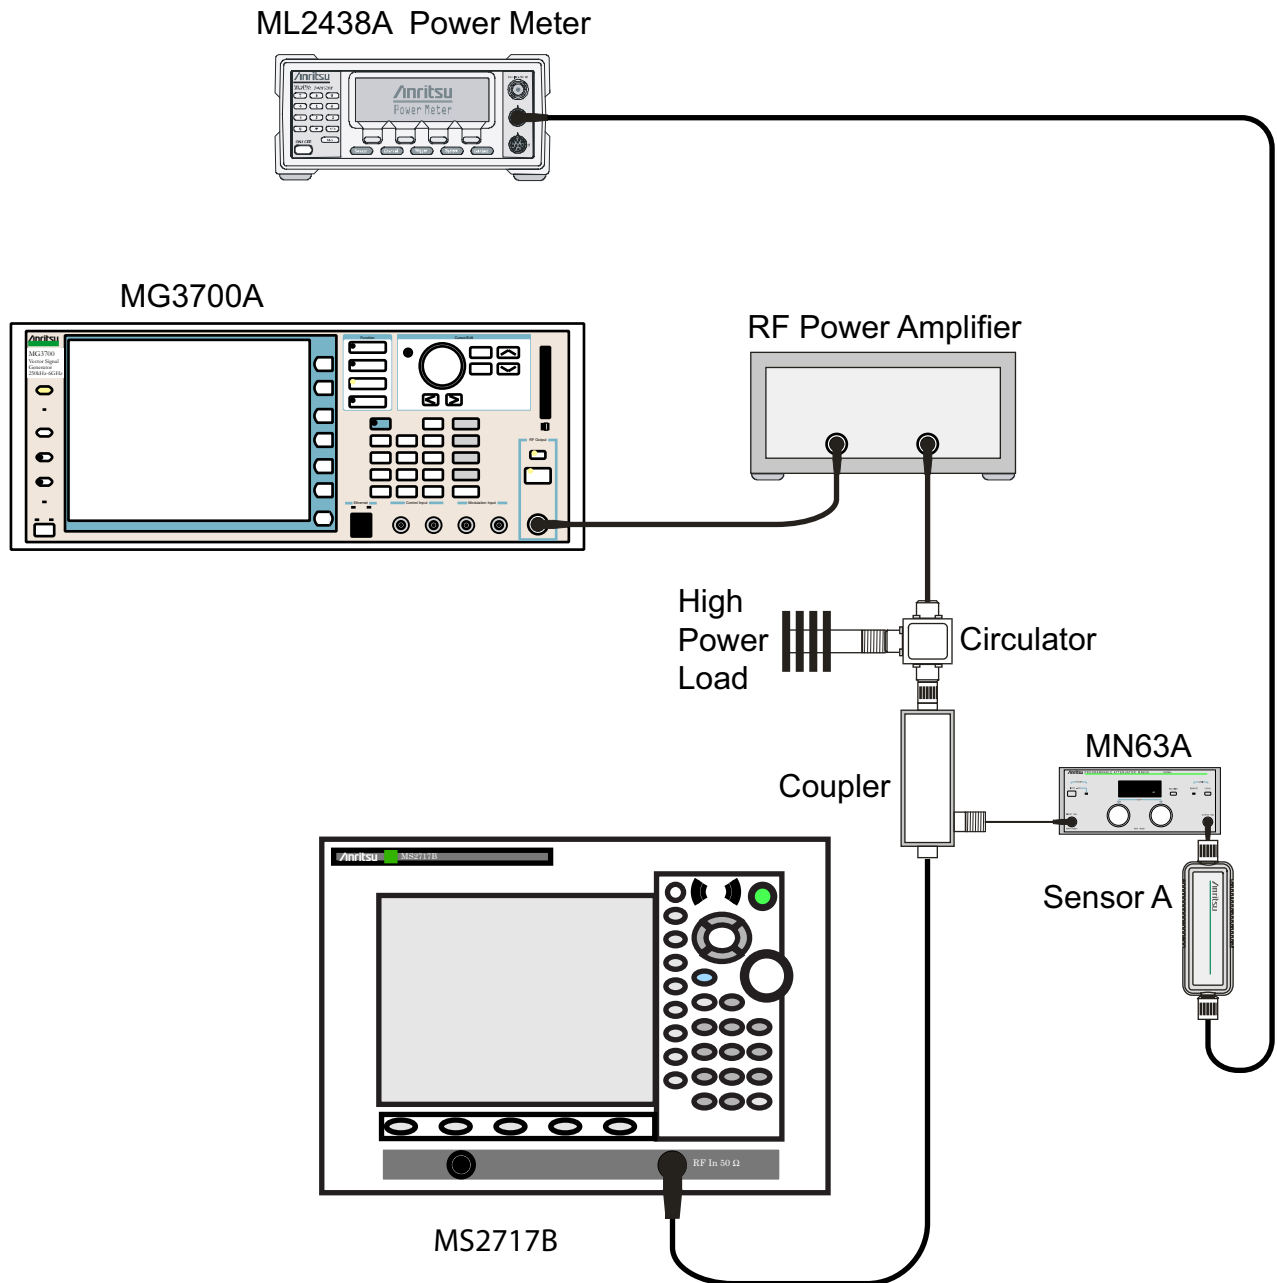

Figure 3-4. WCDMA Absolute Power Accuracy Verification — Measurement Setup
33. Disconnect the coupler from Sensor B and connect the coupler to the MS2717B, referring to Figure 3-4.